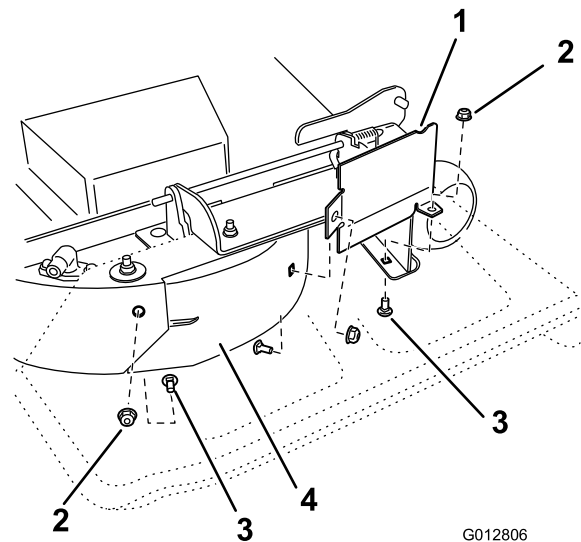

Figure 30
8. Remove the carriage bolt (5/16 x 3/4 inch) and locknut (5/16 inch) on the rear wall of the mower deck securing the baffle to the deck (Figure 30).
9. Locate the baffle guard at the front edge of the side discharge opening. Remove the fasteners securing the baffle guard and the right baffle to the mower deck as shown in Figure 30. Remove the baffle guard and retain all fasteners.